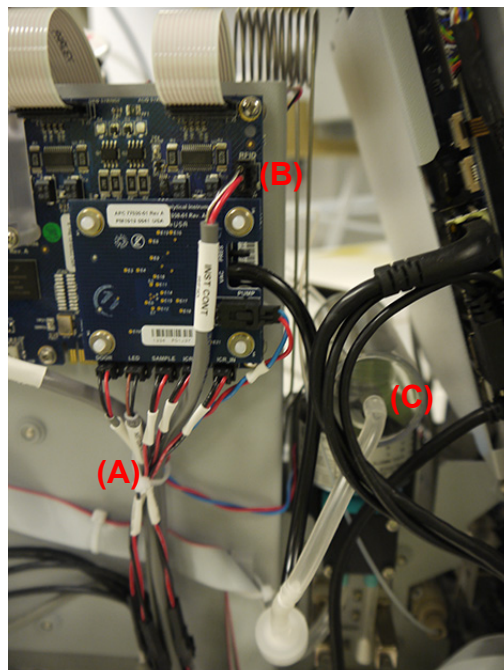

Figure 73: Electronics Side of Analyzer for Re-installation
5. From the electronics side of the Analyzer, reconnect the tubing the back of the degasser (C), (Figure 73).
6. Make sure to exercise ESD protection and reconnect the pump cable into the “Pump” connector on the ICR interface board (B), in (Figure 73).
7. Attach a cable tie to gather and hold the multiple ICR interface board cables together (A), in \(Figure 73\).